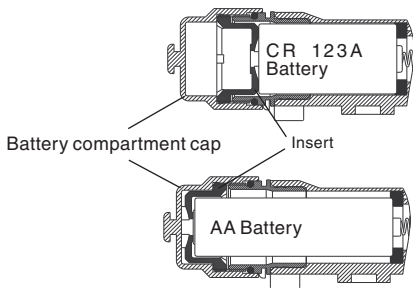

Figure 2-1. Insert Positions in the Battery Compartment Cap
- A.** Observe Figure 2-1 for right position of the threaded insert according to the battery to be installed.